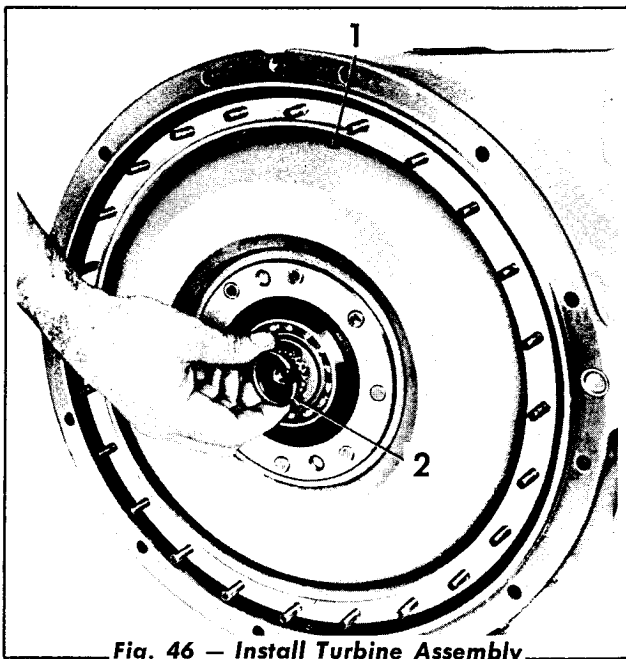

Fig. 46 — Install Turbine Assembly
10. Install the turbine assembly (Fig. 46) and secure it with the snap ring.